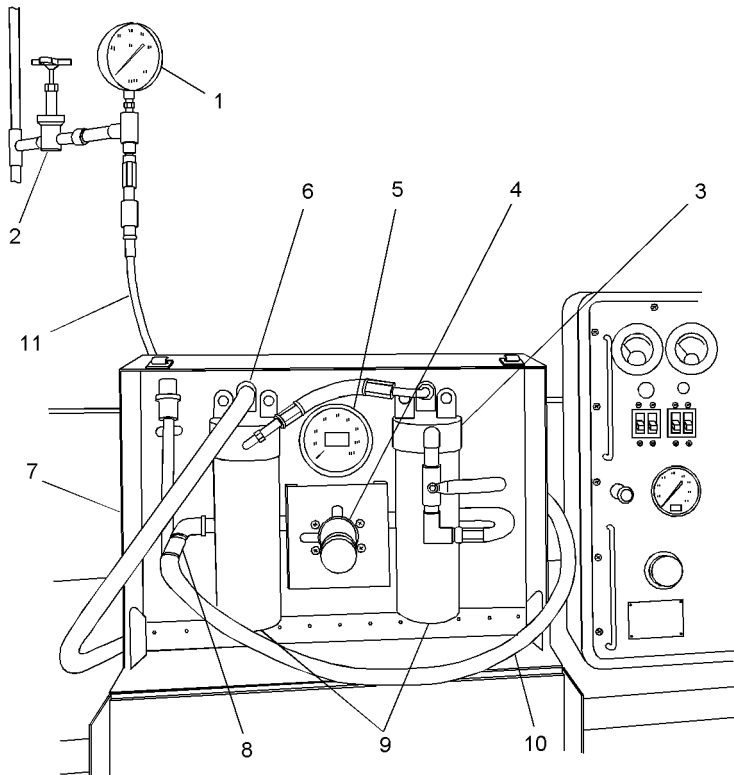

Figure 6-7. OBOGS Adapter Setup
Figure 6-7 will be used for all index numbers throughout this procedure unless otherwise noted.
160 psig gage (1) or suitable substitutes installed on shop air supply source prior to the OBOGS Adapter Assembly Inlet. (Figure 6-7) shall be used for orientation of assembly.
22. Connect OBOGS Adapter Assembly Hose (11) to OBOGS Adapter Assembly INLET Port (6). Connect the other end of OBOGS Adapter Assembly Hose (11) to shop air source.
23. Ensure that the adjusting knob of OBOGS ADAPTER REGULATOR (4) is turned counterclockwise four turns or until spring tension is released.
24. Turn on shop air supply. Pressure will be indicated on Shop Air Supply gage (1). At no time during operation shall Shop Air Supply gage (1) fall below 75 psig during the high-pressure swing.
25. Open OBOGS Adapter Assembly Bleed Ports (9) 1/4 to 1/2 turn until a slight bleed is present.